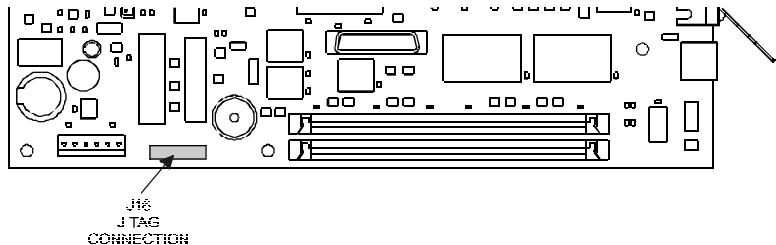

Figure 3-30. J Tag Connection on MPCB.
- 1) Remove the Right Cover completely to connect the J Tag Adapter, see Chapter 5 for removal and installation procedures for the Right Cover. See Figure 3-30 for location of J16.